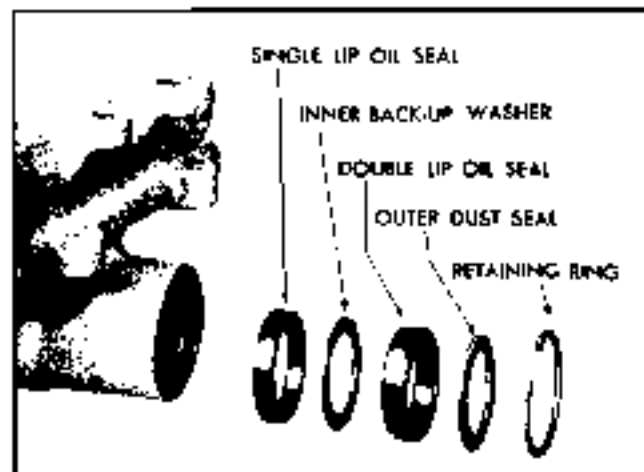
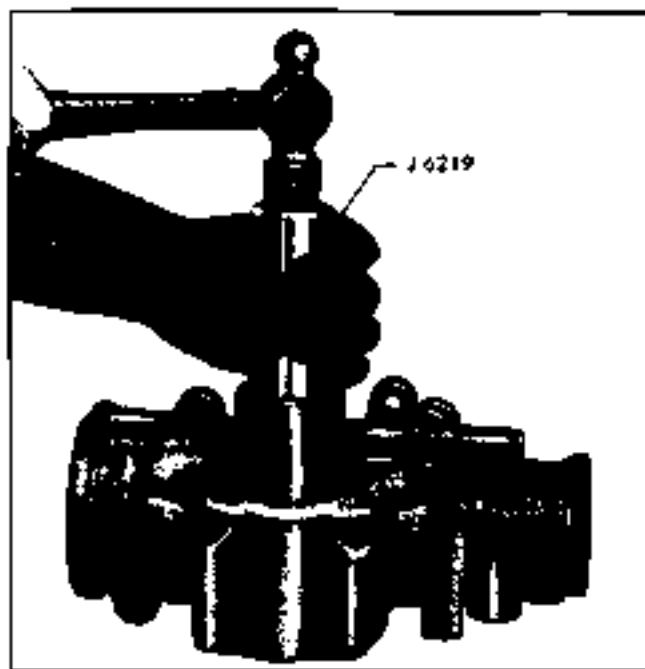

Fig. 9-70 Pitman Shaft Seals and Washers
Fig. 9-71 Installing Pitman Shaft Seals Using J 6219
3. Lubricate and install pitman shaft seals; single lip seal, inner back-up washer, double lip seal, outer dust seal and retaining ring in housing bore (Fig. 9-70). Use tool J 6219 (Fig. 9-71) for seals and Truarc pliers for retaining ring. Make sure seal lips are properly positioned, retaining ring is seated and that approximately 1/16" clearance is maintained between inner seal (single lip) and bearing.